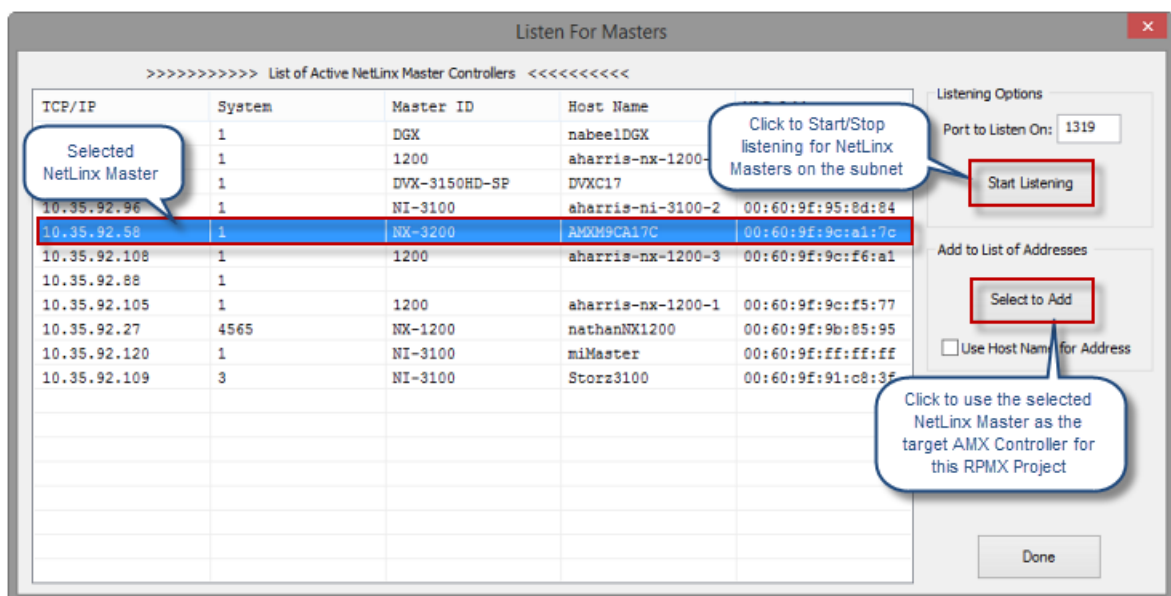

FIG. 13 Listen For Masters dialog
- Select one or more Masters from the *List of Active NetLinX Master Controllers*, and click **Select To Add** (FIG. 13):